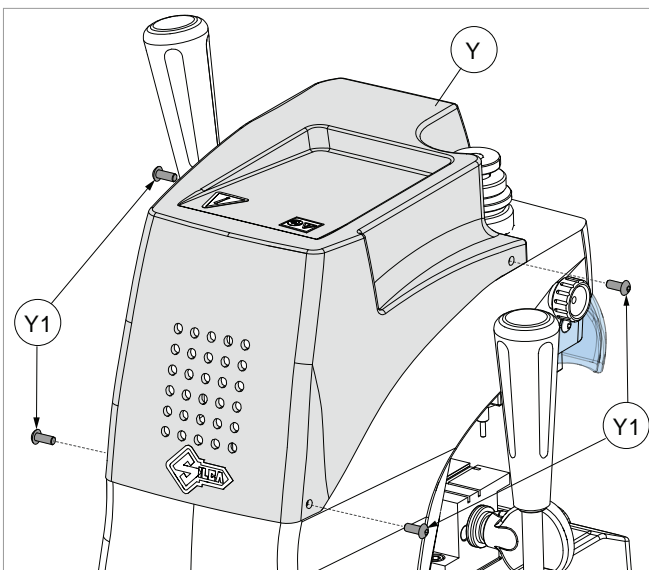

Fig. 41
**!** Turn off the master switch (P) and unplug the machine.
- 1) Loosen the four screws (Y1) and remove the upper casing (Y) (Fig. 41).
- 4) Replace the upper casing (Y) and secure with the four screws (Y1).
**⚠ Turn off the master switch (P) and unplug the machine.**